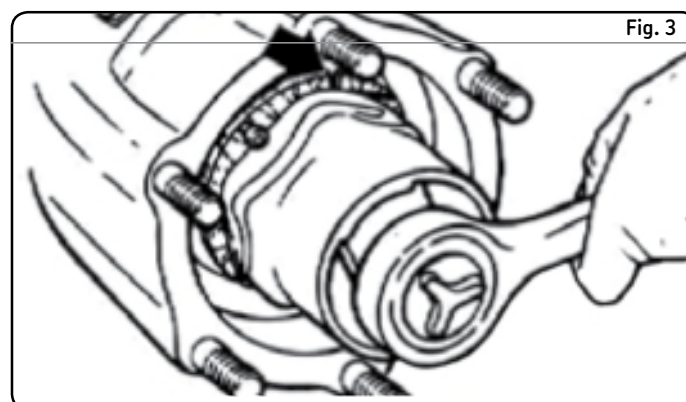

Fig. 3
- 4 Using a 2" six-point thin tubular socket for the 1.50-12 & 1.50-18 thread size, a 3" six-point thin tubular socket for the 2.625-12 & 2.625-16 thread size, a 3 3/4" six-point thin tubular socket for 3.25-12 and a 4 1/8" six-point thin tubular socket for the 3.48-12 & 3.50-12 thread size with the appropriated **calibrated torque wrench**, torque nut to 220 ft-lbs. while rotating the wheel. After torque is achieved, rotate wheel hub assembly an additional two full revolutions. **(Wheel should not rotate freely at a nut torque of 220 ft-lbs)** See **fig. 3** for socket placement.